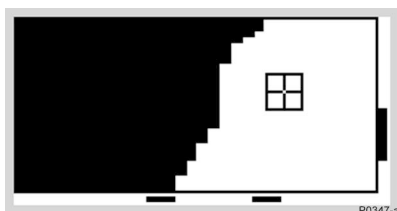

Figure 5.10 Quickstart as full screen display
- STEP 1 Press the shift button next to the full screen icon at the right of the control panel. This will increase the viewing area from that depicted in Figure 5.9 to that in Figure 5.10.